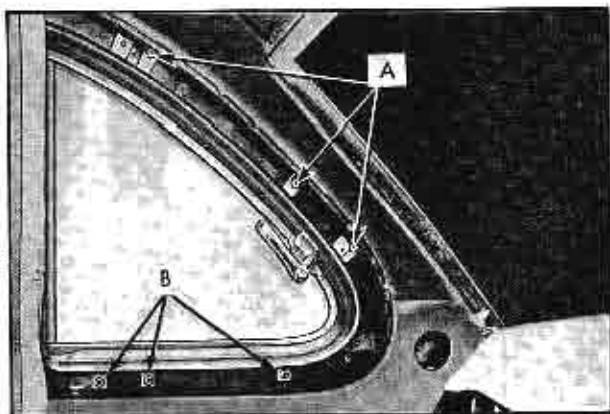

Fig. 3-43 Rear Quarter Vent Removal
5. Remove three ventilator to side roof rail screws "A", Fig. 3-43.
6. Remove three ventilator to rear quarter inner panel screws "B", Fig. 3-43. Carefully loosen rubber weatherstrip from sealer on wall of rubber around window opening and push glass from the outside, removing the entire assembly from inside the body.
3. Install three upper and three lower retaining screws, Fig. 3-43, and place headlining back into position.